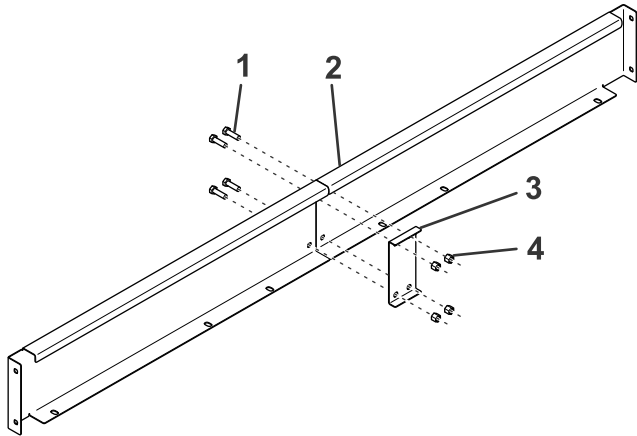

Figure 1
2. Secure 2 extension sideplates together using 4 bolts, 1 spacer plate, and 4 nuts (Figure 1).